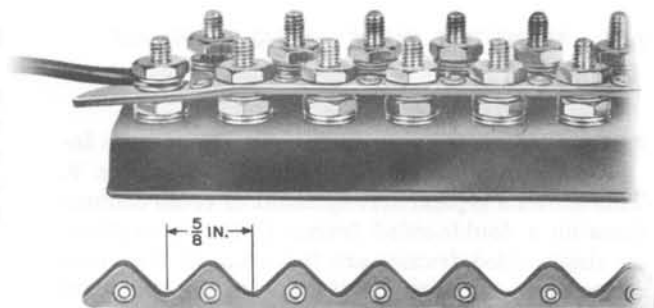

Fig. 7 — S-type Bonding Ribbon
6.02 The S bonding ribbon consists of a notched spring brass strip fastened to a fiber insulating strip used for strapping binding posts on 5/8-inch centers (G and H binding post chambers, 30-type connecting blocks). It accommodates 16 binding posts, approximately 10 inches in length. Mount as shown in Fig. 7.